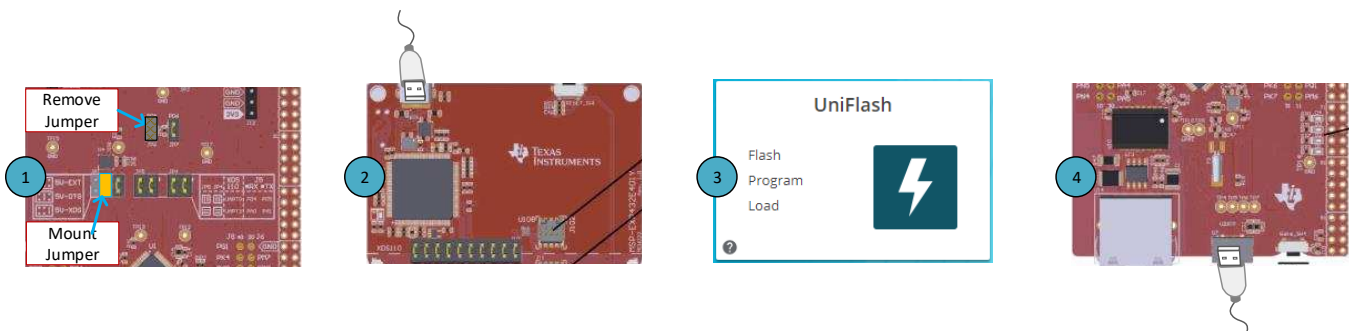

Figure 4. Analog EVM Controller Setup
1. Remove jumper JP6 on the Analog EVM Controller as shown in step 1 of Figure 4.
2. Mount jumper on 5V-OTG. Retain the jumper on 5V-XDS as shown in step 1 of Figure 4.
3. Connect the USB cable to the port on the XDS110 side of the board as shown in step 2 of Figure 4.